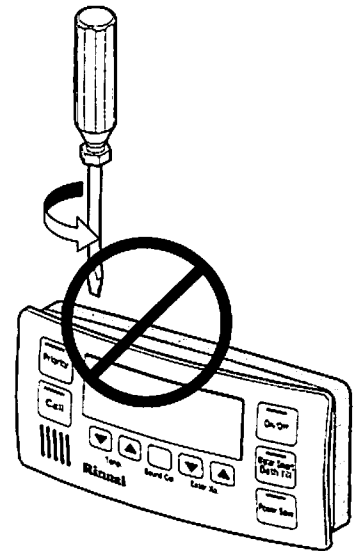

Fig.2: Do not use Screwdriver
3. Do not attempt to remove the faceplate with a screwdriver. (Fig.2)